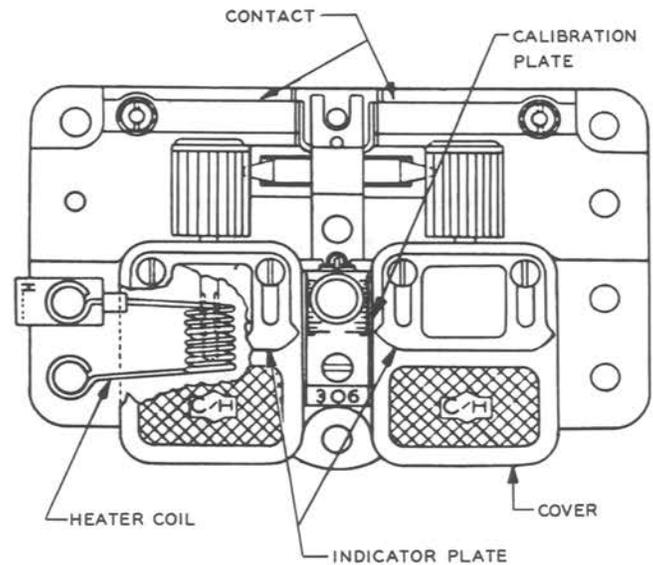

Fig. 7—Cutler Hammer Overload Relay
(1) To adjust the Cutler Hammer relay (Fig. 7), loosen the screws that hold the covers in place and reposition both covers to bring the indicators opposite the desired graduation on the calibration plate. Adjust both covers of the relay to the same graduation.